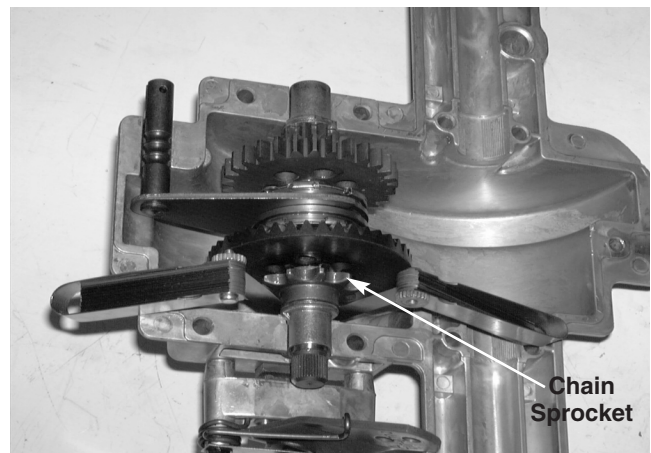

FIGURE 4.
- 14). Place two feeler gauges between the chain sprocket and the flat washer shim. See figure 4.